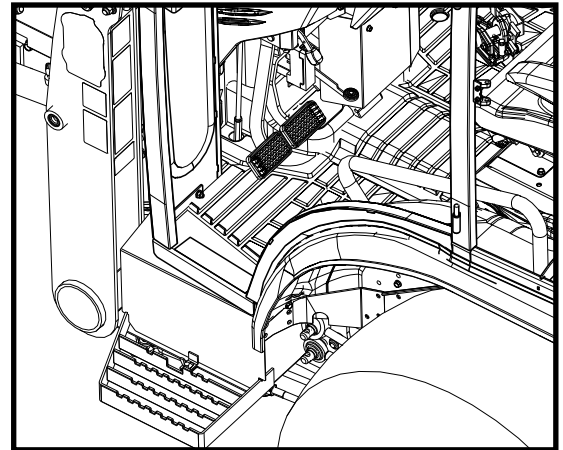

Figure 12.1: Trim Floor Mat to Fit
12.1 Re-install floor mat and trim to fit. Three alignment nubs on each side will have to be cut off where the three button head bolts secure the side frames to the floor board. The front corners will also need to be trimmed to fit around the cowl. (See Figure 12.1)